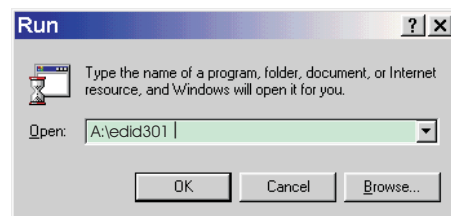

Fig. 5
4. At the submenu, type the letter of your computer's floppy disk drive followed by :EDID301 (for example, A:\EDID301, as shown in Fig. 5).